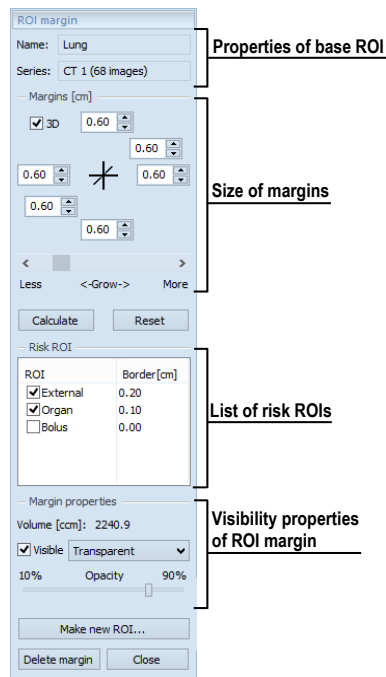

Figure 273 – ROI margin tool
3. The **ROI margin** tool is then automatically displayed as a new tab in the tools panel where you can define parameters for the ROI margin (see Figure 273).